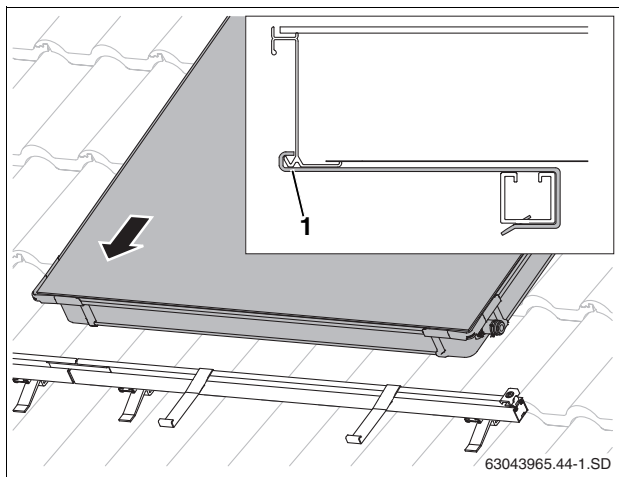

Fig. 40 Laying the first collector on the profile rails
- Place the first collector onto the horizontal rails and allow it to slide into the collector hangers (Fig. 40).
The lower collector edge must engage evenly with the hooks of both collector hangers (Fig. 40, [1]).